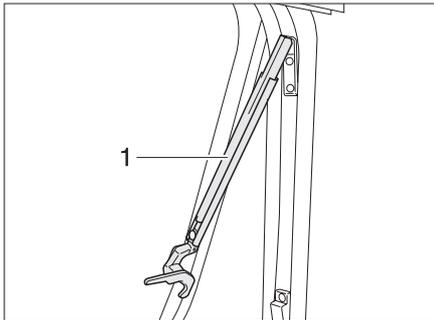

Fig. 25 Hinged window with automatic hinges, open
- ▶ Open the hinged window to the desired latched position. The automatic hinge (Fig. 25,1) locks in place automatically.